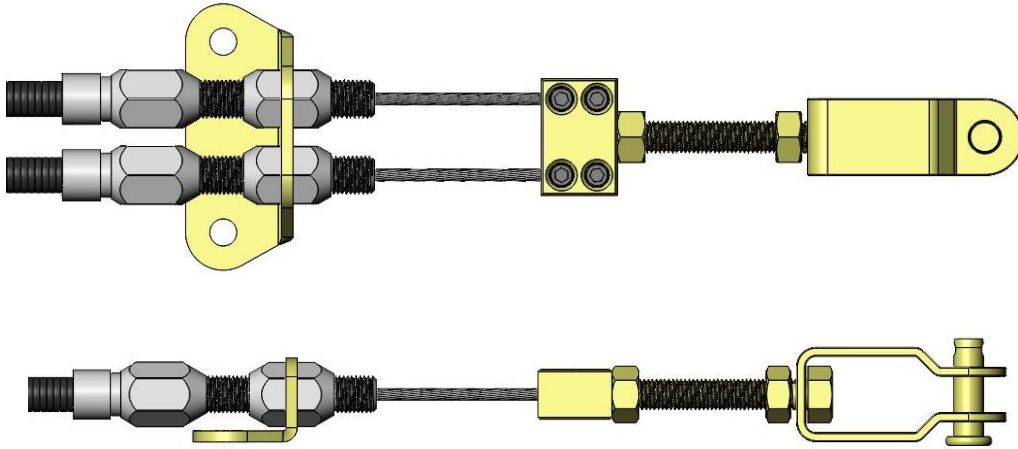

Figure 6 – Dual Cable Attachment Using Clevis
10. Depending on the attachment style of your OEM emergency brake cable, the previously shown Single Wire Union to the OEM Cable Attachment Brackets may not work in your application. Shown below in Figure 6 is another possibility that can be used. Both Cable Housings can be routed to a central location and secured to the provided Dual Cable Mount. This will allow the supplied Clevis and Dual Cable Attachment Block to be used to pull both cables at the same time from a single source. **NOTE: The wire still will need at least 3.000" of total wire travel in this configuration to allow for adequate movement of the emergency brake lever at the caliper.**